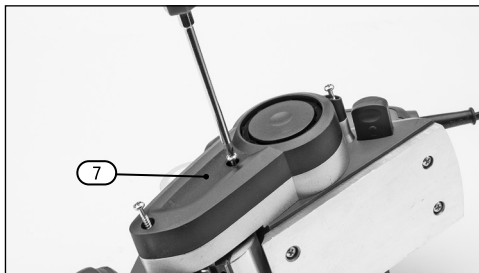
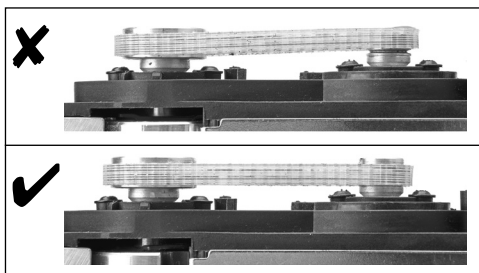

Fig. 9
Fig. 11
7. Adjust the two grub screws (C) using the supplied hex key until the blade is level and both blades are equally exposed.
8.3 Transmission Belt Replacement (Fig.9 – Fig.11)